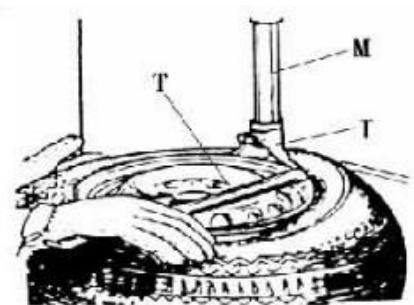

Fig 6
Lower the Vertical Arm (M) until the Mounting head/demounting head (I) rests next to the edge of the rim, flip pneumatic locking button (K) to lock the Vertical Arm (M) and Horizontal arm in position, and control the distance from Mounting head/demounting head to the edge of wheel rim about 2-3 mm. Insert the Lifting Lever (T) between the tyre bead and the front section of the mounting head/demounting head (I), and move the tyre above the mounting head/demounting head as shown as Fig 6.